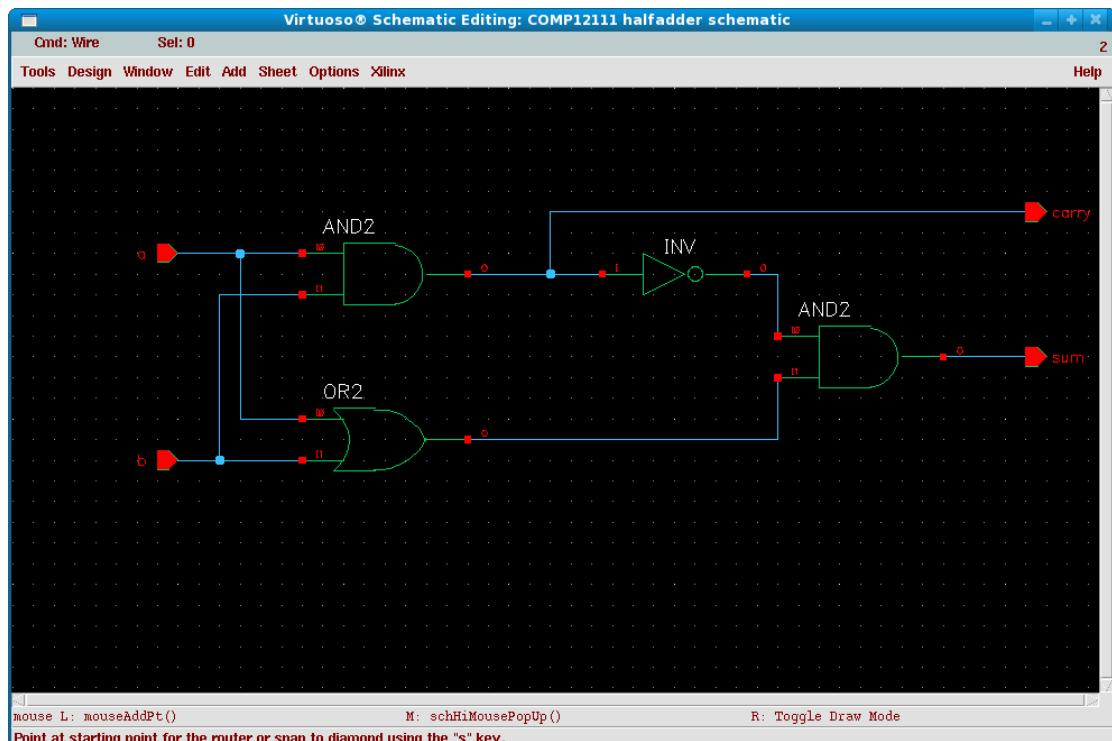

Figure 4.4: The half-adder schematic
You are going to design and test a half-adder, the circuit for which is shown in Figure 4.4.
2. Add components OR2 and INV, placing them in the positions shown in Figure 4.4 (you haven't placed the inputs, outputs or wires yet). You may need to zoom out to do this sensibly; the view control functions are accessible via the Window ↴ Zoom or Window ↴ Pan submenus. **Follow any instructions** that appear at the bottom of the Virtuoso Schematic Editing window.
3. Now you are going to add the inputs and outputs to the halfadder. Inputs and outputs are called 'pins'. Select Add ↴ Pin..., and the 'Add Pin' window should appear. Set the 'Direction' to be 'input', and enter 'a b' (note the space between 'a' and 'b') in the 'Pin Names' text entry box and then press the Enter key (on the keyboard). Place the two pins one after another, approximately as illustrated in Figure 4.4. Each name you place in the list will produce a pin of the appropriate function, which you place on the schematic one after another.
5. Now the components are positioned correctly they must be joined with wires. Wires must run connections to pins on components (red squares), to input or output pins or to other wires. Select Add ↴ Wire (narrow), or press 'w' on the keyboard, and then place wires to connect the components as shown in Figure 4.4. Point at the start position of the wire, click the LMB to start a wire, click once at each place where the wire changes direction
Connectivity is maintained when items are moved using ‘stretch’. If you take the trouble to find the ‘Move’ operation, you will find that connectivity is broken. For legibility it is a good idea to try to maintain most wires with “Manhattan” geometry (i.e. keep segments either vertical or horizontal, as in Figure 4.4).